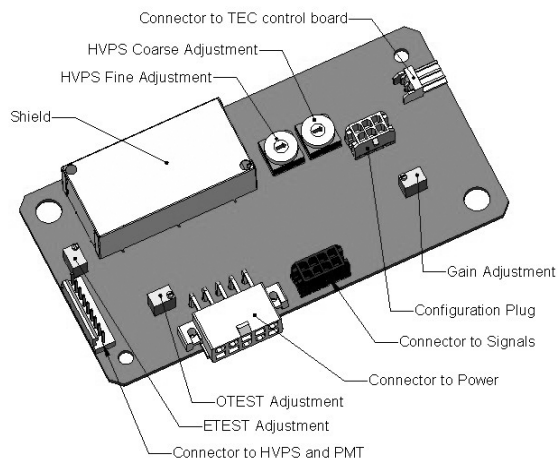

Figure 11-17: Pre-Amplifier Board Layout
7. Locate the Following Components On the Preamp board (see Figure 11-17):